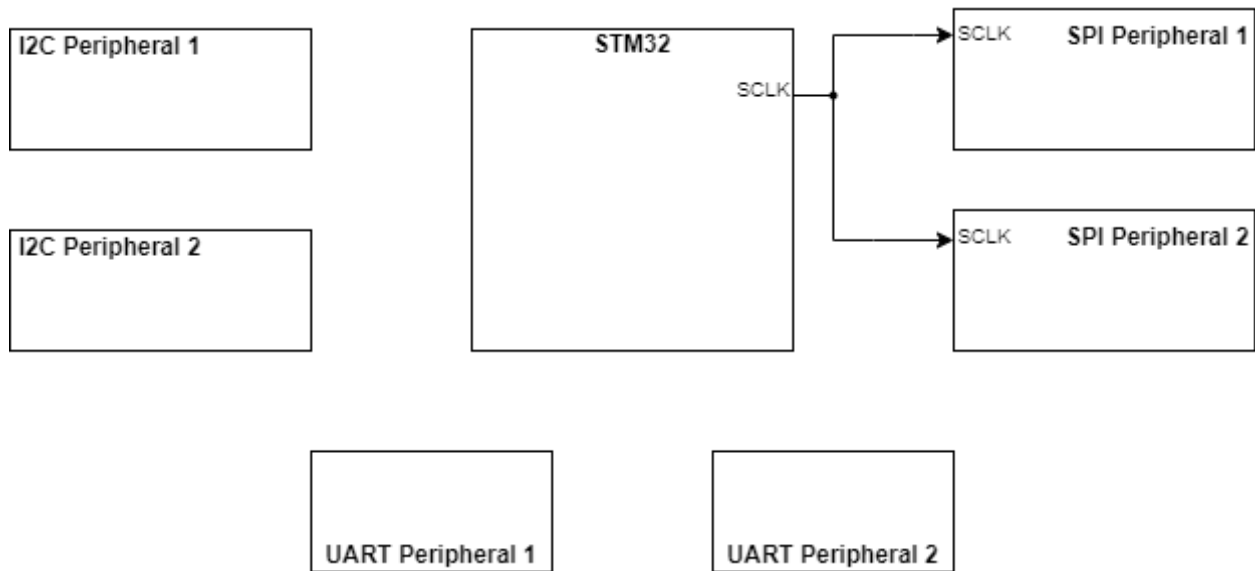

Figure 1: Block diagram.
- [2 pts.] You have an STM32 and six different peripheral devices. Two devices use I2C, two devices use SPI, and two devices use UART. In Figure 1, draw in and label the appropriate wires needed to communicate with each device individually. Assume the I2C peripherals have different device addresses. Minimize the number of wires for full credit. The SCLK line has been drawn for you. Omit power and ground wires. There is no need to draw arrowheads on the wires.